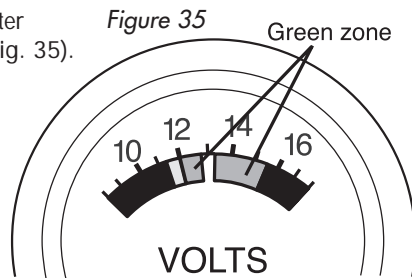

Figure 35
3. Observe the voltmeter on the cabinet door (Fig. 35). The needle should be moving into the green zone, indicating that charging voltage is being delivered from the charger to the battery. The on-off circuit breaker switch must be in the up